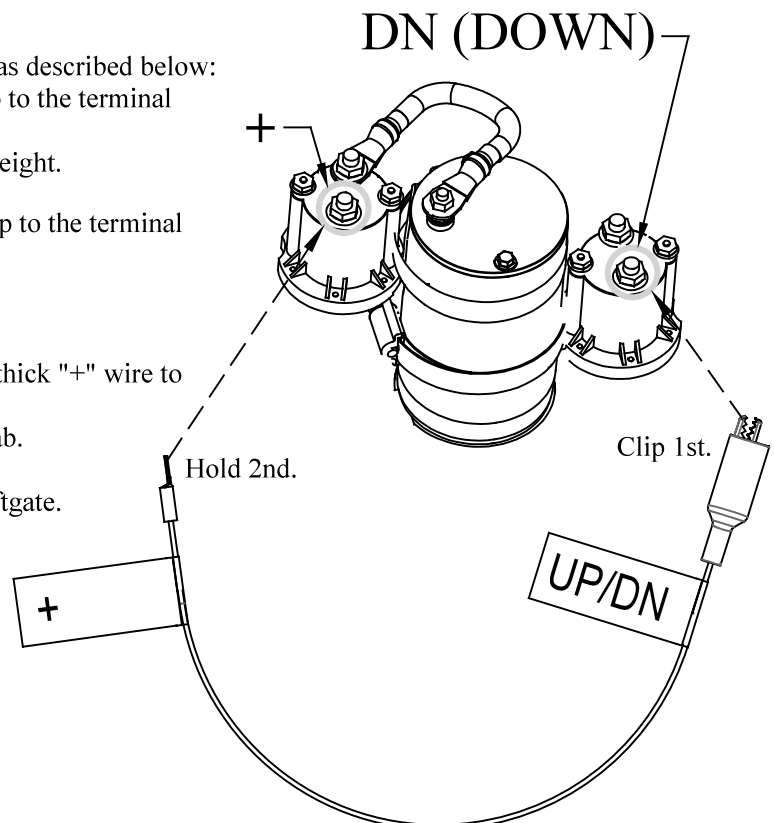

Figure 4: Lowering the Liftgate
- To **Lower** the liftgate: **Clip** the liftgate jumper's "UP/DN" clip to the terminal with the (18awg) yellow wire labeled "DN" (Figure 4).